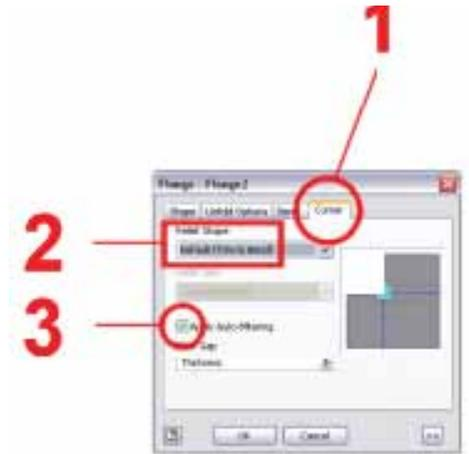

Figure 5
This is achieved on the Corner tab of the Flange and Contour Flange dialog boxes (1 in Figure 5 above) by setting Relief Shape to Trim to Bend (2) and clearing the Apply Auto-Mitering check box (3).